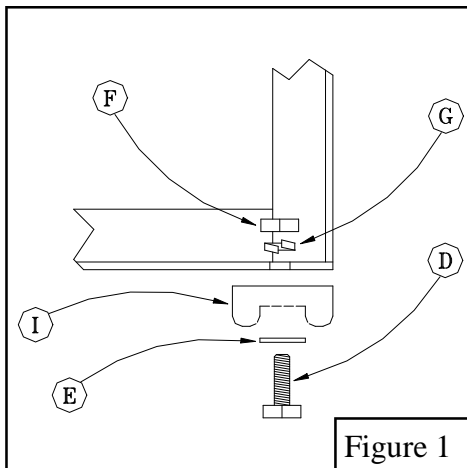

Figure 1
1. Attach *Rubber Feet* (I) in 3 places to each *Frame Assembly* (C) using *3/8" X 1 1/4" Hex Bolts* (D), *3/8" Washers* (E), *3/8" Lock Washers* (G) and *3/8" Hex Nuts* (F). See Figure 1.